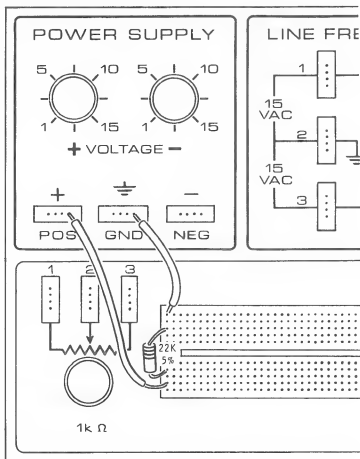

Figure 1-78
1. At the left side of the socket on the experimenter, construct the circuit shown in Figure 1-78.
5. Whether or not your meter has an ammeter scale, it is convenient to know how to convert a voltmeter to an ammeter. Leave the circuit shown in Figure 1-78 connected. At the right side of the socket on the experimenter, construct the circuit shown in Figures 1-80A and 1-80B.
8. Restore the circuit on the left side of the socket to the condition shown in Figure 1-78.